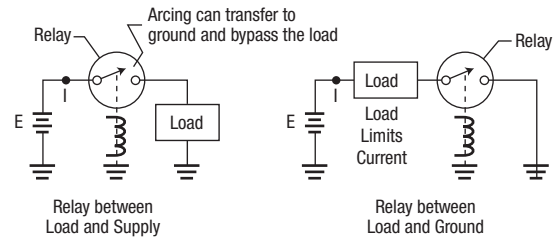

Figure 8
If only relays with internal grounds are available for your hot switch application, the relay should always be placed on the ground side of the load to prevent breakdown damage. Otherwise, fault conditions may cause internal arc-over to the grounded housing (Figure 8).
- When vacuum relays are mounted, the relay base should be connected to ground (also see Figure 8 on page 34 for more information on positioning of the relay within the circuit).